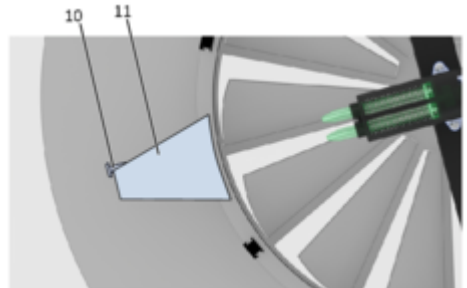

Fig. 15: Travel stop
11. ▶ Turn the swirl diffuser anti-clockwise until the anti-rotation bracket (Fig. 15/11) rests against the stop screw (Fig. 15/10).
For RFD-V with insulation, insert the swirl diffuser so that the anti-rotation bracket (Fig. 15/11) sits in the recess of the insulation.